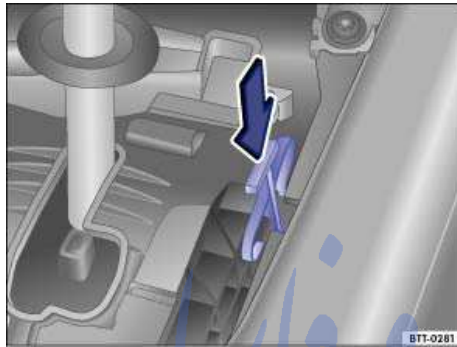

Fig. 157 Releasing the selector lever lock.
- Push the colored release lever ⇒ fig. 157 in the direction of the arrow and hold it in this position.
- Press the release button in the selector lever handle and shift the selector lever to Neutral (N).